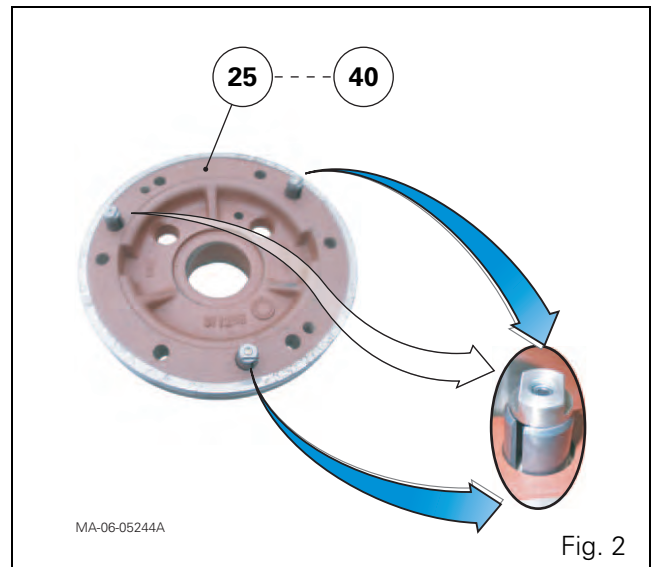

Fig. 2
On tractors fitted with GTA1540 transmission (50 kph), the differential supports (25) (40) are fitted with a mechanical device (Fig. 2) that controls the return of each brake piston (see chapter 6).